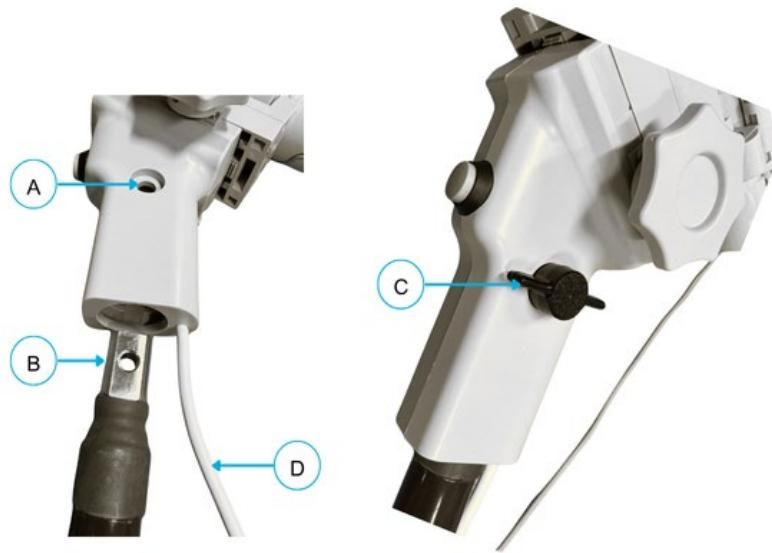

Figure 10-28: TRUS Cradle Attachment to Stabilizer Arm
1. Align the hole in the side of the TRUS Cradle (**A**) with the hole in the end of the Stabilizer Arm (**B**) (**Figure 10-28**).